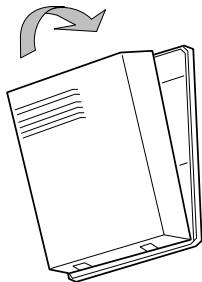

Figure 7 - Attach Cover
- Snap cover onto chime base. Align bottom edge of case with bottom of back plate. Rotate top of case toward back plate and snap into position (see Figure 7).